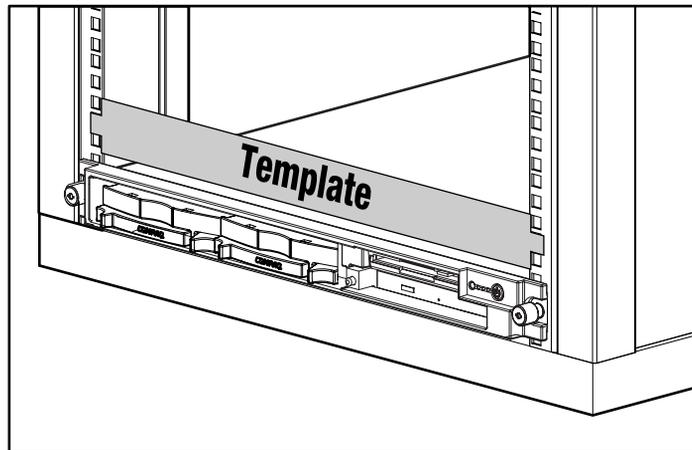

Figure 4-2. Attaching the template to the front of the rack
3. Use the top and bottom edges of the template as a guide and mark the vertical rack supports with a pencil to locate the server position ❶. Match the hole patterns on the template with the holes on the vertical support rails of the rack.
4. Go to the front of the rack and place the template at the bottom of the rack or directly above a previously mounted component. Secure the template against the front of the rack by inserting the two push tabs into the mounting holes. See Figure 4-2.